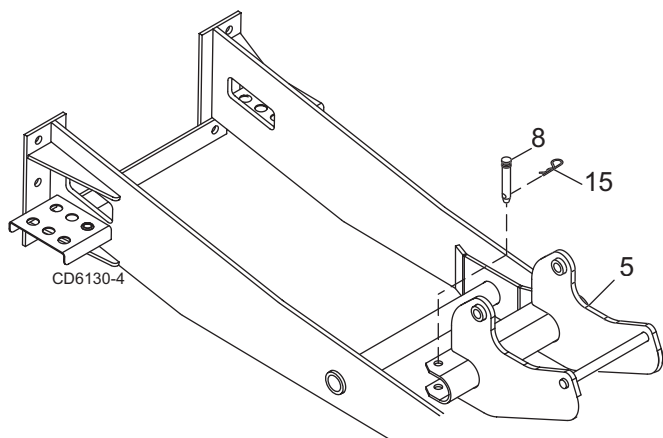

Figure 8 Sub-frame to Rear Mount Connection
2. Insert cross tube of sub-frame into channel of rear hanger as shown in Figure 8.